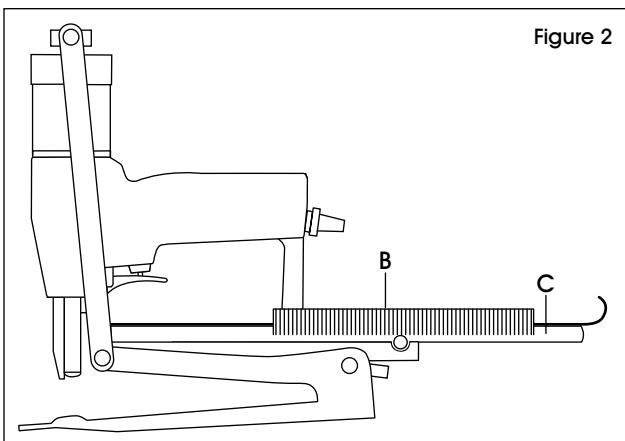

Figure 2
2. Place the staple strip (B) into the staple rail (C) from the left side. (See Figure 2)